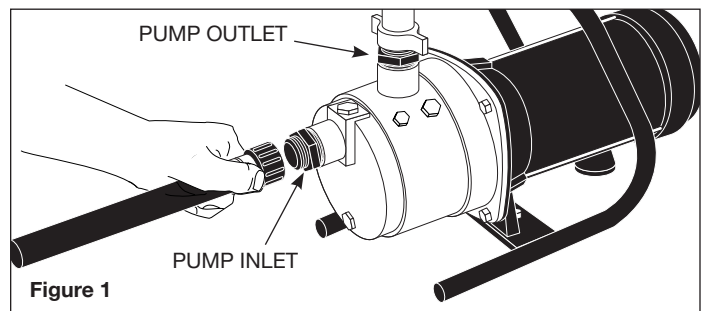

Figure 1
4. Connect inlet pipe or hose to pump. The inlet connection is designed for 1" NPT thread. Rigid pipe such as PVC will work fine for inlet and outlet pipe. (Reminder: Minimize length of pipe and number of fittings.) An adapter for garden hose is included (see Figure 1).
7. Connect outlet pipe or hose to pump. The outlet connection is designed for 1" NPT thread. Rigid pipe such as PVC or garden hose may be used. An adapter to garden hose thread is included (Figure 1).